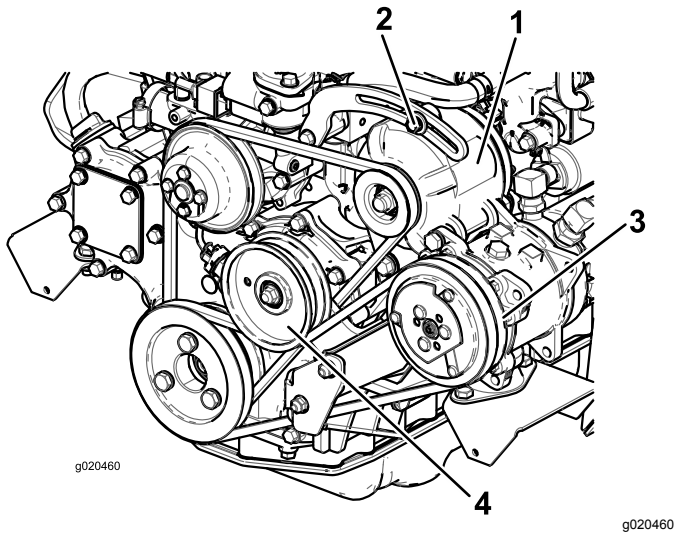

Figure 113
If the deflection is not 10 mm (3/8 inch), loosen the alternator-mounting bolts (Figure 113).
2. If the deflection is not 10 mm (3/8 inch), loosen the idler pulley mounting bolt (Figure 113). Increase or decrease the compressor belt tension and tighten the bolt. Check the deflection of the belt again to ensure that the tension is correct.